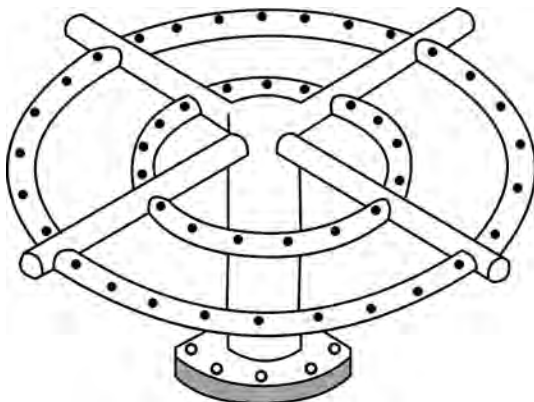

FIGURE 16.28 Perforated tube type distributor.
- Perforated tube type is illustrated in Figure 16.28.